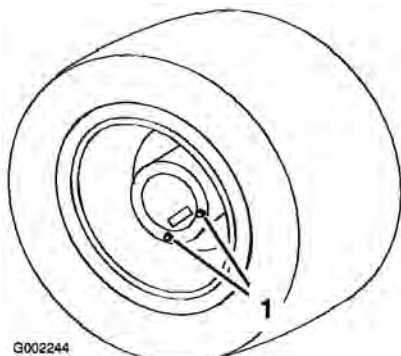

Figure 47
1. Position the sprayer on a level surface with the rear wheels positioned for draining as illustrated in Figure 47.
3. Place a pan under the drain plugs and remove them from the wheel (Figure 47).